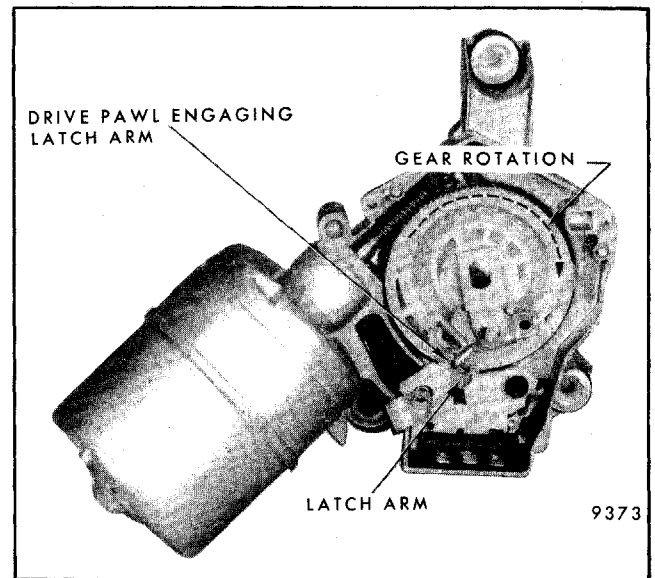
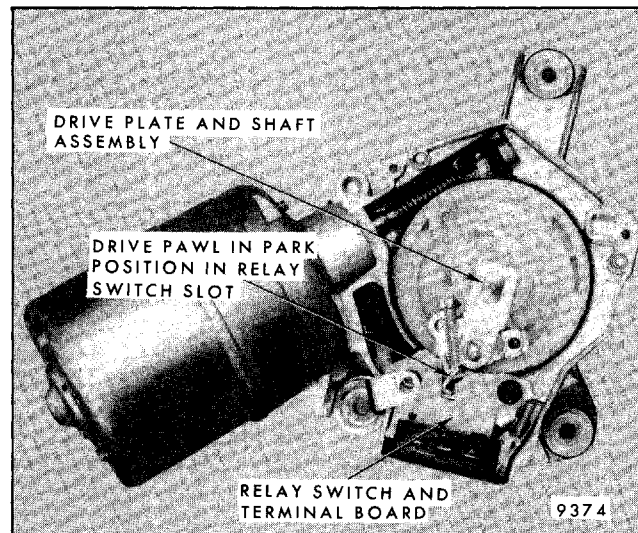

Fig. 2-48-Wiper Shutting OFF
Fig. 2-49-Wiper Shut OFF in Park Position
Since the wiper motor continues to run when the switch is first turned off, the continuing rotation of the gear causes the drive pawl to engage the latch arm (Fig. 2-48). This action unlocks the gear from the drive pawl, lock pawl and the drive plate and output shaft assembly. With the drive plate and output shaft unlocked from the gear, and since the output shaft extends through the gear shaft off center, the continuing rotation of the gear at this point causes a cam action between the output shaft and the gear shaft. This cam action causes the gear drive pawl to move into the relay switch slot. As the drive pawl moves into the switch slot, it pushes the latch arm against the relay switch contact. This action opens the relay switch contacts which cuts the 12V feed to the motor windings (Fig. 2-49).
1. Check that drive pawl and latch arm springs are properly connected (Fig. 2-49).